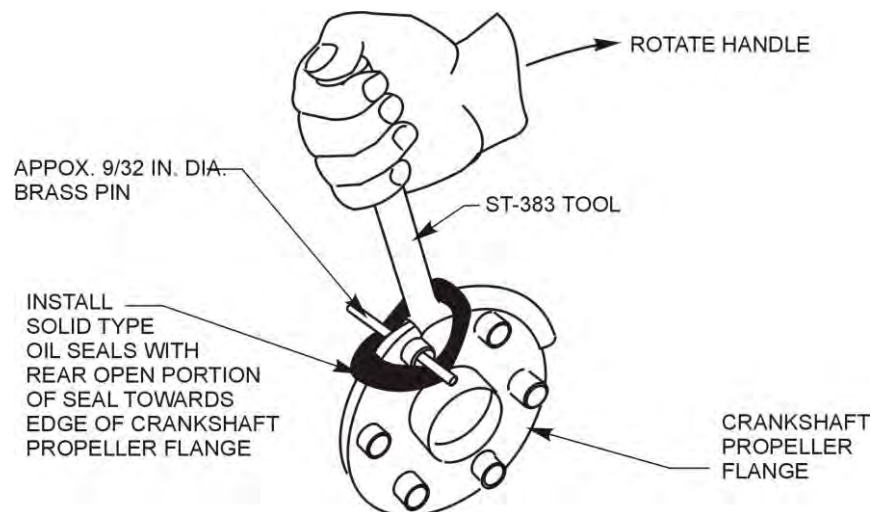

Figure 46
- (e) Put a brass pin approximately 9/32 in. diameter by 3 in. long through the crankshaft propeller flange bushing to hold both sides of the seal in place as shown in Figure 46.
- (g) Install the oil seal over the edge of the crankshaft propeller flange with the groove (open portion) of the seal towards the crankshaft propeller flange. Refer to Figure 46.
- (h) Install the Crankshaft Oil Seal Installation Tool ST-383 under the seal and over the edge of the crankshaft propeller flange as shown in Figure 46. Use even pressure with your hand, carefully turn the tool to force the oil seal over the crankshaft propeller flange and use care not to damage the seal.